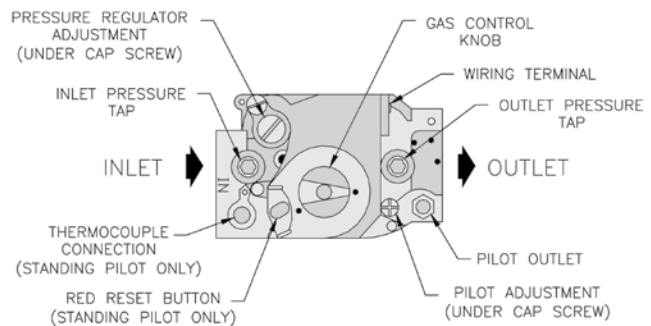

Figure 12: Gas Valve Pressure Tap
2. Connect manometer to pressure tap on gas valve. Use 1/8 NPT tapping provided. See Figure 12.